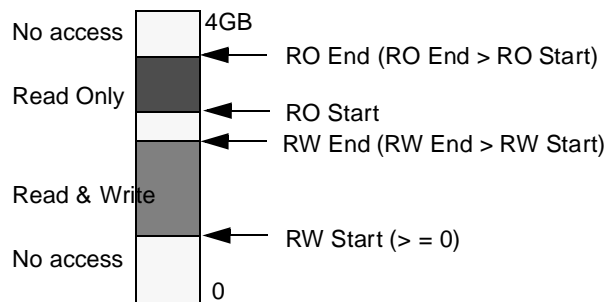

Figure 11. Window Protection setup in PCI memory space
If the request packet passed the source ID check, an address validation will be done (only in 4GB range). The `WIN_PROTECT` register sets up two address windows of 16MB granularity; one for Read/Write permission (RW) and one for Read Only (RO) permission. Any violation will result in a response with response status RESP_ADDRESS. Address offset `[47:32]` is not considered in the range checking. The total access protection window must be continuous. See Figure 11..
The CSR registers for the PCI Card are located in two different ASICs - PSB64 and LC-2. The ways of accessing them is a bit different. All the registers below can be accessed both from PCI and SCI. Access restrictions can be set up for the PSB registers. Figure 11 shows the card local mapping to the registers.